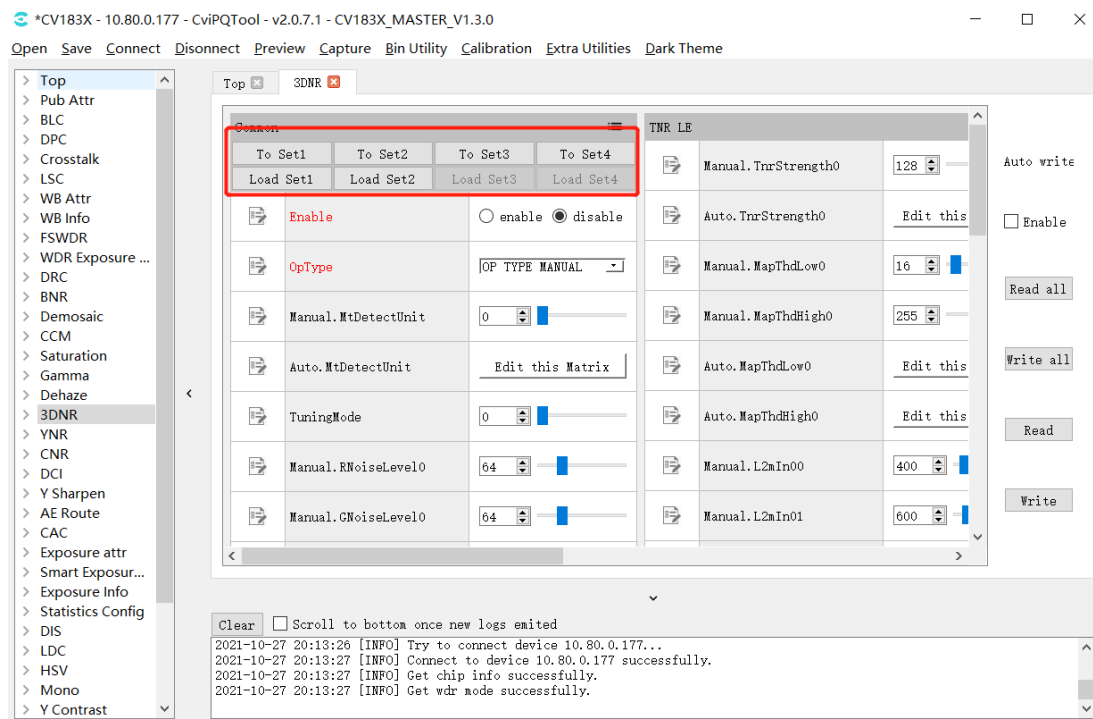

Fig. 3.4: Parameter temporary storage operation interface (taking 3DNR as an example)
The tool provides four groups of data temporary storage space for each tuning group. The user can use the “To Set” button to save the adjusted values of parameters, and then use the “Load Set” button to restore and compare. The detailed operation instructions are shown in Fig. 3.4 . Please refer to the following instructions.
3. Click the “Load Set” button to restore the previously stored value. Take Fig. 3.4 as an example: If the user has stored “Set1” and “Set2” two groups of values temporarily, “Load Set1” or “Load set2” button can be used to quickly recover and compare them.